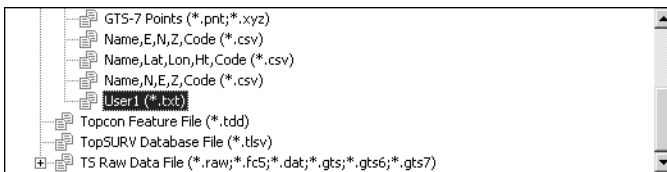

Figure 4-10. Format Name Stored in File Format List
- Store the format name in the list of the coordinate file formats (Figure 4-10).